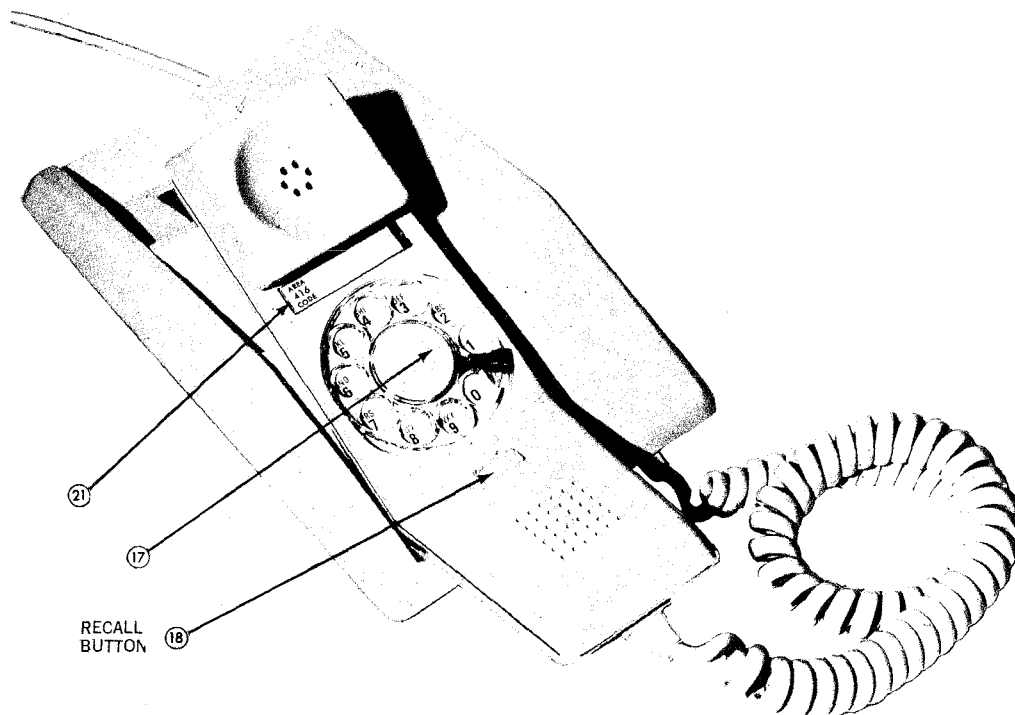

Fig. 1 — Desk Mounted "Off-Hook" Position QSK100AX
2.01 The QSK100AX, a two-piece telephone set (Fig. 1), consisting of base and handset is a combined desk-wall-type telephone. When used as a desk-type telephone, it rests on the feet provided in the base of the set. When used as a wall-type set, it is mounted using the mounting holes in the baseplate.